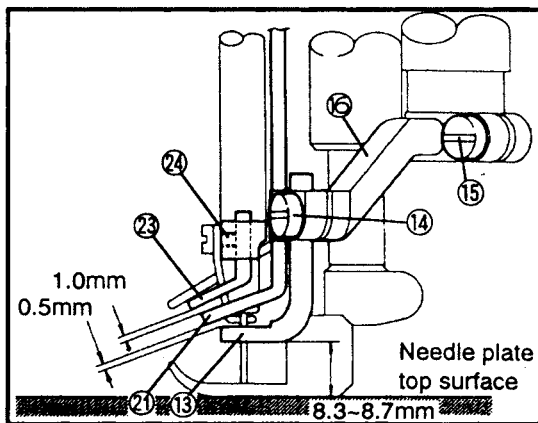

Fig.36
At the position, the thread is caught smoothly by thread hooking part when spreader comes to extreme right, tighten screw ②. (Fig.36)
Set the hole of Top Cover Thread Eyelet on the extension line of slot of Top Cover Thread Guide, then tighten screw 24. (Fig.36)